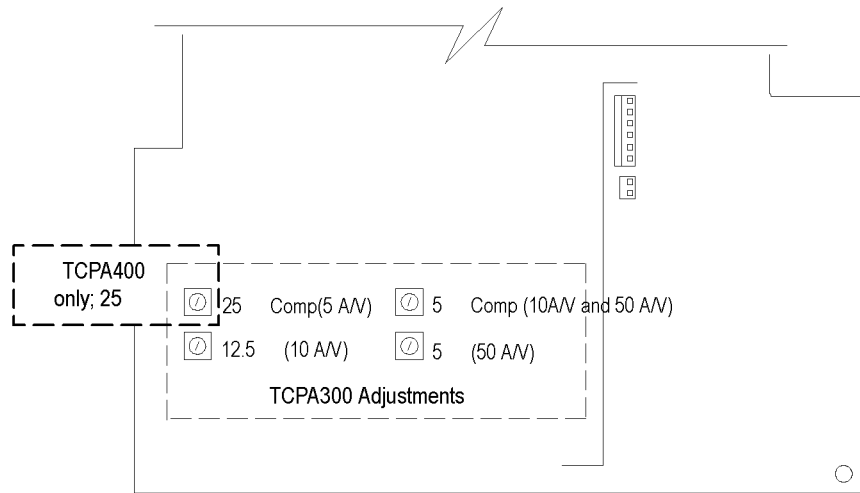

Figure 14: Amplifier gain adjustment locations
2. Set the current source to the values shown and adjust the corresponding adjustment pot to the target values shown. (See Table 25.) The adjustment locations on the amplifier board are shown. (See Figure 14 on page 46.)
3. Locate the adjustment on the amplifier board. (See Figure 14.)